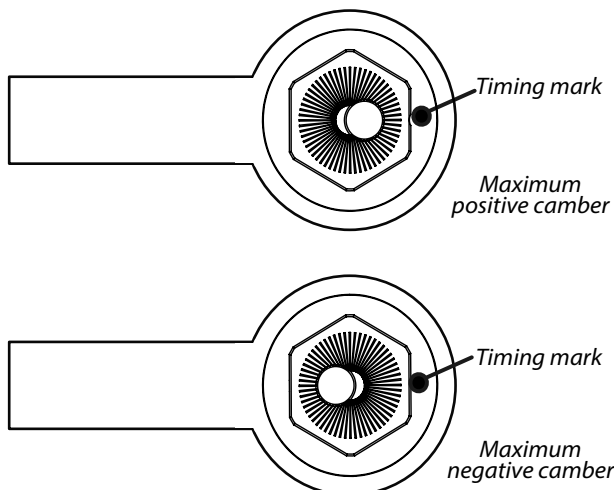

Figure 1
4. Refit the arm to the vehicle, carry out alignment check and adjust to set desired geometry (see fig. 1). It is recommended to adjust both bushes simultaneously.